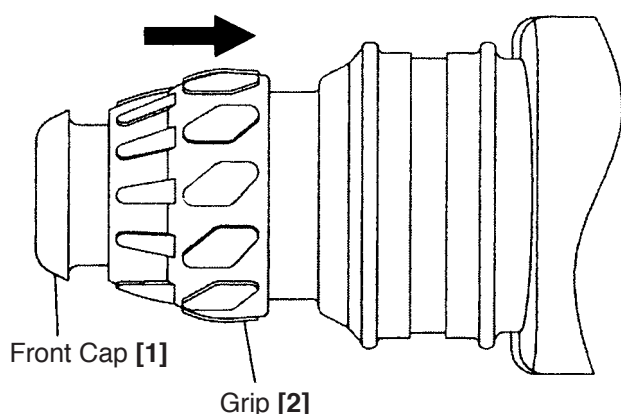
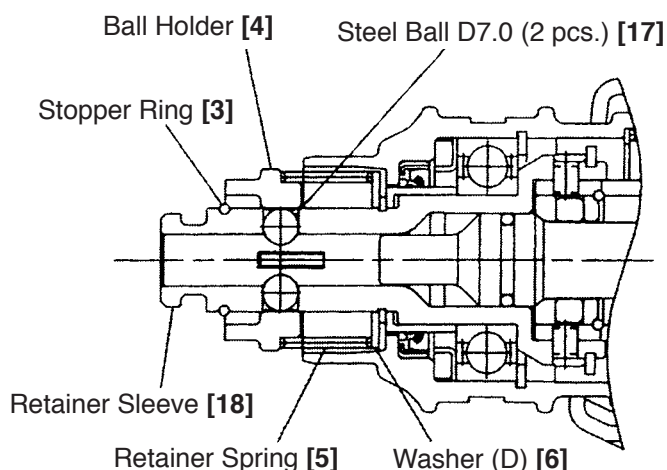

Fig. 13
Fig. 14
As shown in Fig. 13, pull the Grip **[2]** fully in the arrow direction and remove the Front Cap **[1]**. (Pull the Front Cap **[1]** strongly because it is made of rubber and fitted to the grip securely.) Then, the Grip **[2]** can also be removed. Remove the Stopper Ring **[3]** with a retaining ring puller. The Ball Holder **[4]**, two Steel Balls D7.0 **[17]**, Retainer Spring **[5]** and Washer (D) **[6]** can be removed from the Retainer Sleeve **[18]**. (Fig. 14)